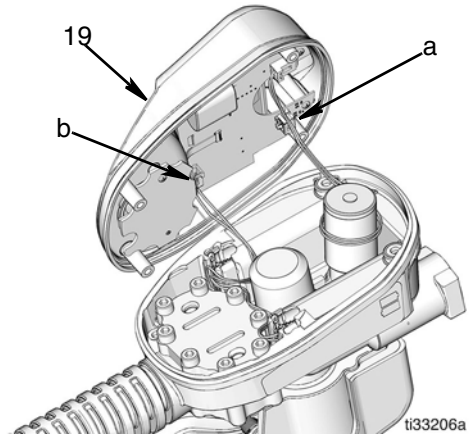

FIG. 24
4. Disconnect the red and white solenoid connection (a) (FIG. 24).
5. Disconnect the black and red power connection (b) (FIG. 24).